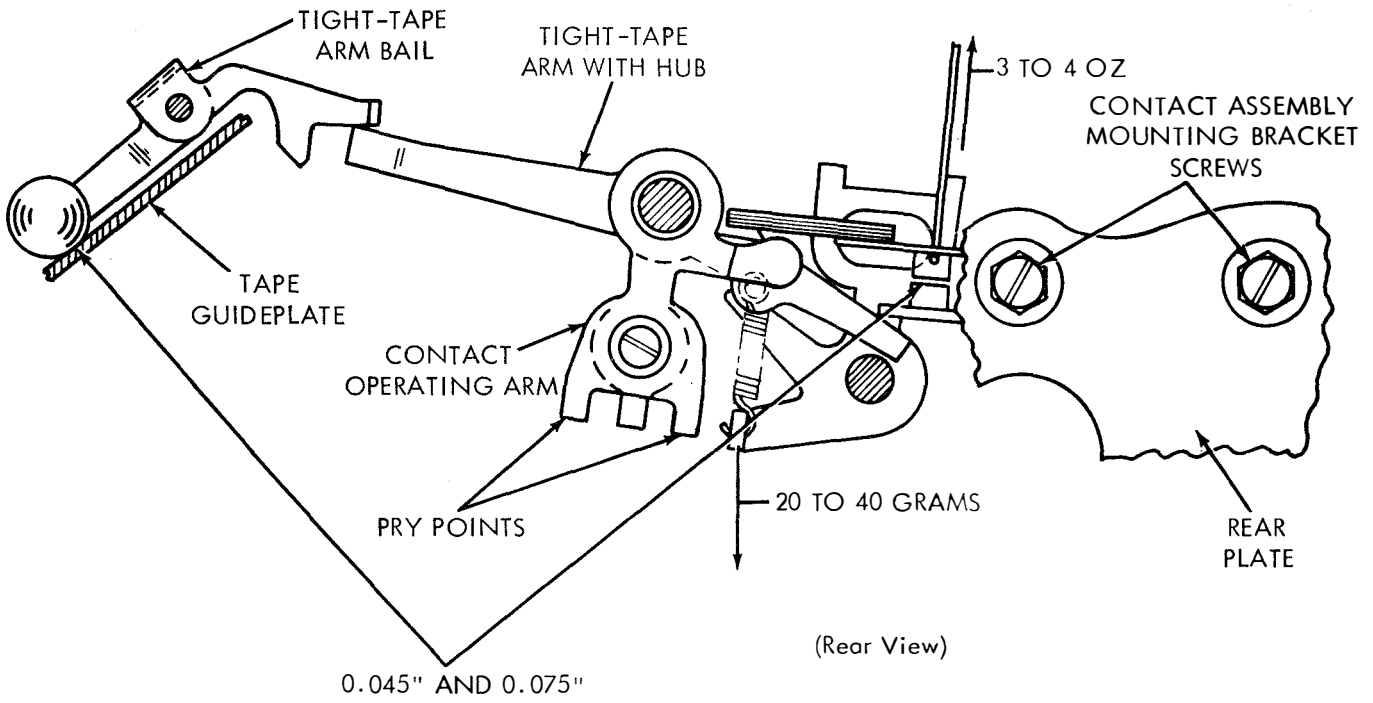

Figure 3
3.06 Start-Stop Contact Assembly Bracket Adjustment (Figures 3 and 4)